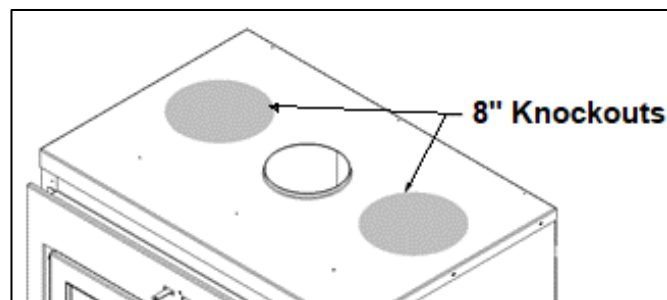

Figure 3-15: 8 Inch Knockouts for Gravity Kit
7. Remove the two 8" knockouts (2) at the top of the unit using a flat head screwdriver (Figure 3-15).